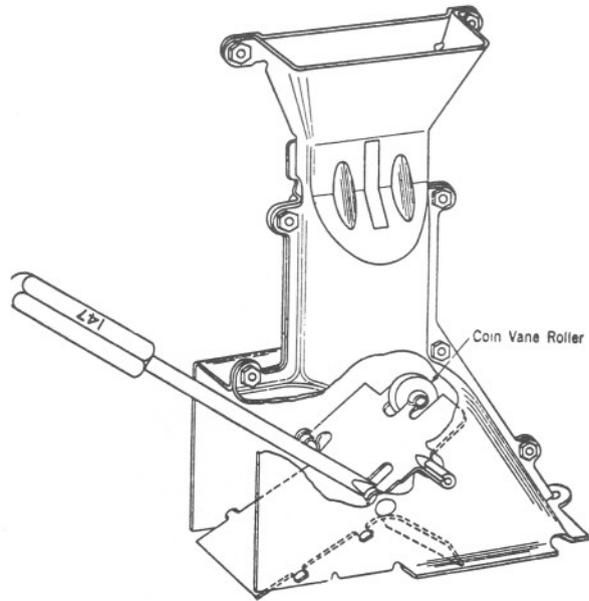

Figure 13
- (1) Remove coin trap (see Paragraphs 4.15 and 4.16 of section).
- (2) Remove coin shield (see Paragraph 4.17 of section).
- (3) Remove shoulder screw coin vane bearing from front of hopper and remove coin vane through slot in front of hopper.
- (4) If vane is in good condition, it may be re-used. If necessary, free coin vane roller with KS-7860 petroleum spirits. Clean vane thoroughly using KS-2423 cloth moistened with petroleum spirits. Vane shall be replaced if not in good condition.
- (5) When remounting coin vane, assure that lock washer is under head of the bearing screw. Check vane and hopper clearance as in Paragraph 4.07 of section.
- (6) If vane scrapes on front of hopper, place No. 147 tool or equivalent, such as a No. 35 tool or KS-6854 screwdriver, as shown in Figure 13 and adjust front bearing outward by turning tool slightly. If vane scrapes against back of hopper, adjust rear bearing outward as described. In adjusting vane, be careful not to introduce any binding at bearings.
- (7) If vane binds at front bearing, place No. 147 tool or equivalent between coin vane and back wall of coin hopper and turn tool slightly. Tool should be placed about opposite coin vane pin in order not to produce burrs on coin vane or on shoulder of stud used for coin vane bearing. If vane binds at